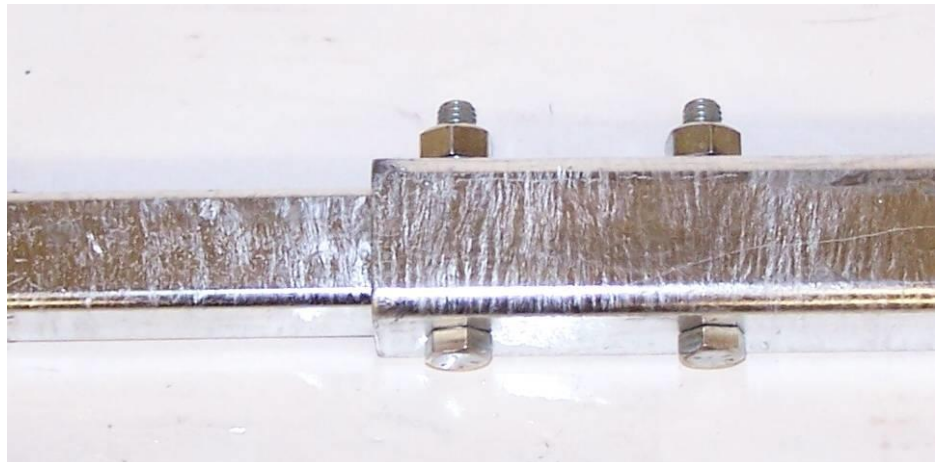

Figure 3
3. Slide the Adjustable Arms into the Main Arms. There are two sets of bolt holes; the first set of holes is for standard width tower leg and the second set is for extended width tower leg. Use the supplied 3" X ½" bolts to secure the two assemblies (Figure 3).